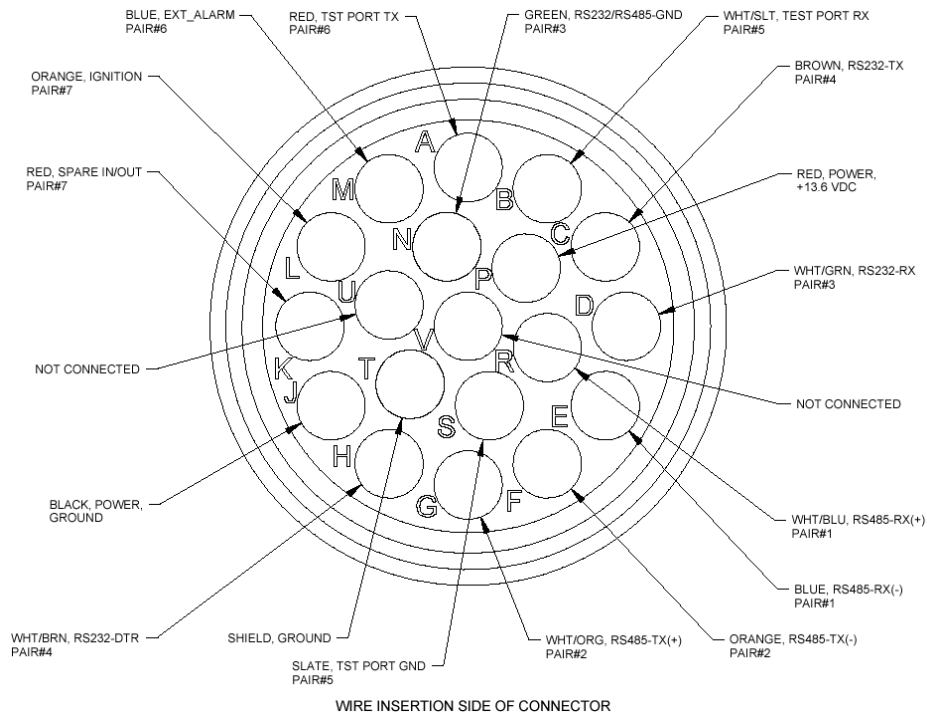

Figure 4. Wireless Matrix MBS2-LP Connector Configuration Diagram
11. The shells and bodies are supplied separately and are attached to the cable after the unit cable is in place. This allows the cable to be inserted through a smaller opening in the vehicle chassis. Figure 4 displays the pinout of the factory-assembled connector that connects to the Wireless Matrix MBS2-LP.